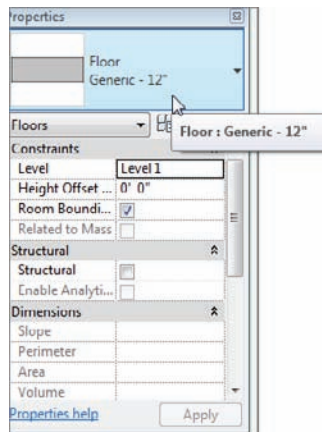

FIGURE 6.2 Changing the focus of the properties
4. In the Properties dialog box, make sure Floors is the current selection, as shown in Figure 6.2.